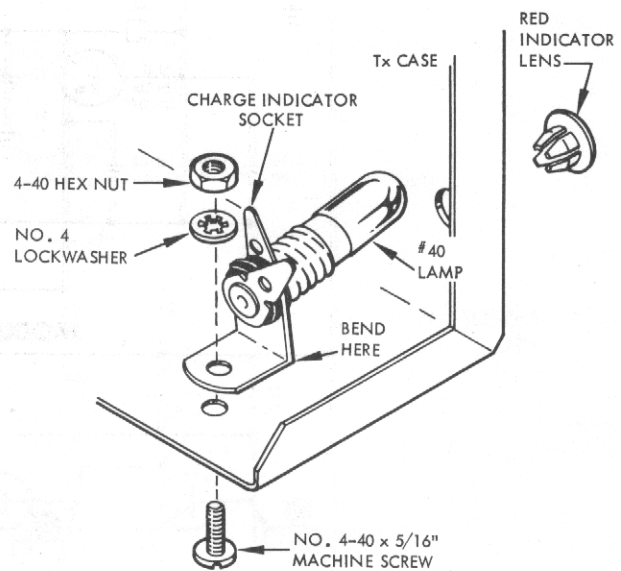

Figure 21. Charge Indicator Lamp Installation
- 152. Screw No. 40 lamp securely into charging lamp socket. (Figure 21) Secure bulb to socket with a dab of fingernail polish or RTV.